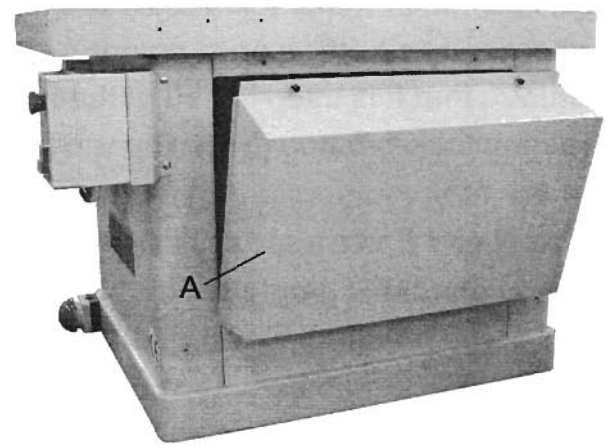

Figure 1
- 1. Remove motor cover A (Figure 1) insert on cabinet.